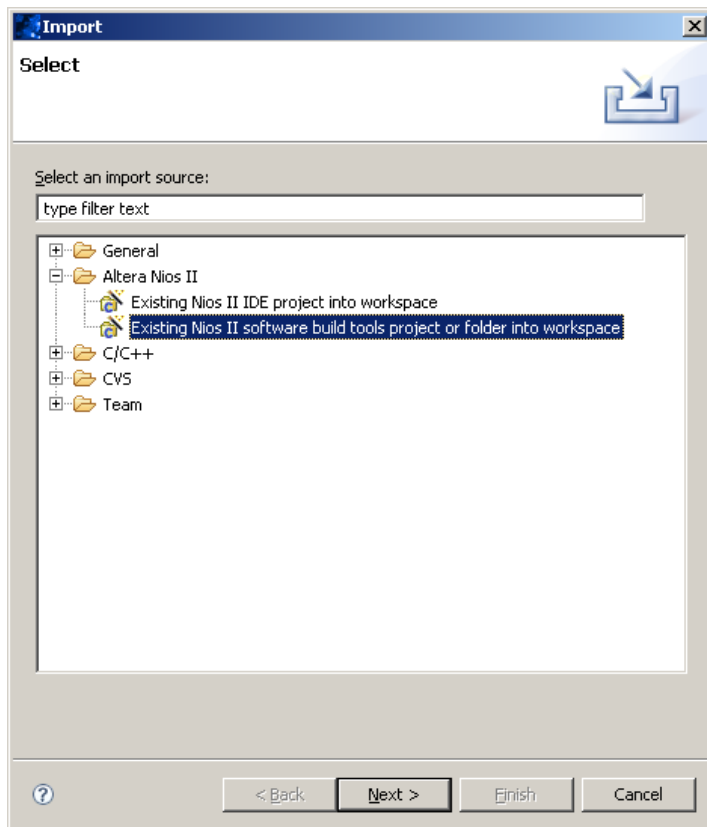

Figure 7-1: import existing software project
4. Expand Altera Nios II and select "Existing Nios II software build tools project or folder into workspace" (refer to Figure 7-1)
9. Expand Altera Nios II and select "Existing Nios II software build tools project or folder into workspace" (refer to Figure 7-1)